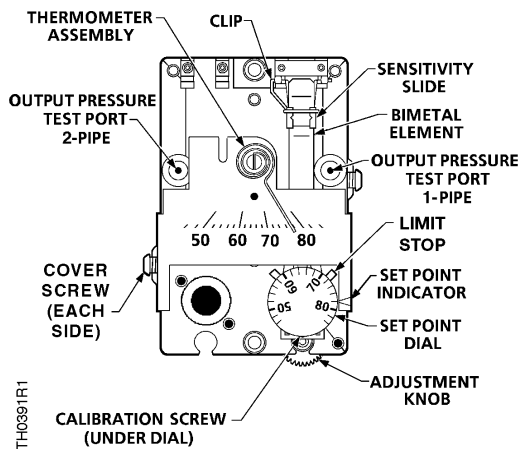

Figure 4. TH192 S Thermostat Details.
2. Place a screwdriver in the center of the thermometer assembly (*Figure 4*). Carefully rotate the thermometer assembly until the pointer tip indicates the correct room temperature.
To change the limit stop settings, use a needle nose pliers to pull the limit stop (*Figure 4*) between the set point cam gear teeth. Do not pull the limit stop any more than necessary to clear the gear teeth. Rotate the limit stop to its new position. Changing the limit stop position one gear tooth changes the limit stop setting by 1-1/3°F (0.7°C).
The factory thermostat sensitivity setting is approximately 2.5 psi/°F (31 kPa/°C). To change the sensitivity, use a flat blade screwdriver to carefully move the sensitivity slide (*Figure 4*) to the desired position as follows:
5. If the control pressure does not read 7 to 8 psi (48 to 55 kPa), turn the calibration screw (*Figure 4*) using the calibration tool or a 1/8-inch (3.2 mm) wrench until the pressure is 7 to 8 psi (48 to 55 kPa). The sensing element is now in calibration and the set point can be changed to the desired room temperature.